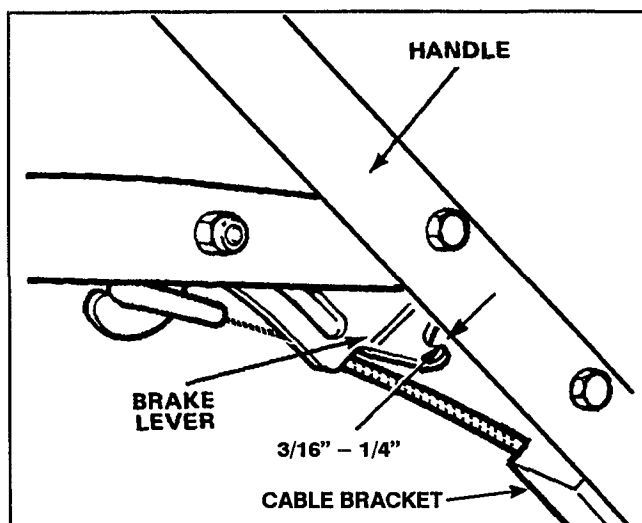

Figure 33
2. CHECK ADJUSTMENT (Fig. 33)—Move control bar toward handle until slack in wire is removed. Gap between brake lever and handle must be  $\frac{3}{16}$ " –  $\frac{1}{4}$ ". See step 3 for adjustment.
3. ADJUST CABLE CONDUIT (Fig. 33)—Loosen nut on cable bracket. Insert  $\frac{3}{16}$ " –  $\frac{1}{4}$ " object between brake lever and handle. Pull down on cable conduit until all slack is removed from wire. Then tighten nut.